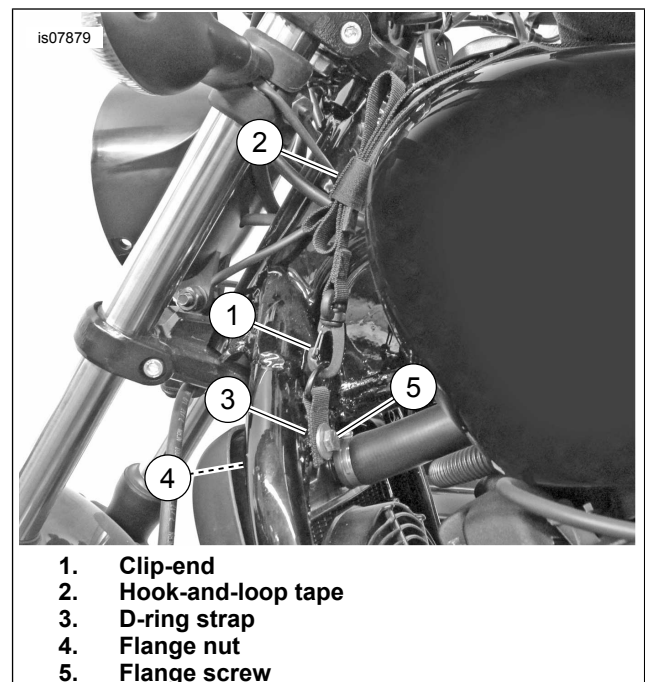

Figure 2. Street Tank Bag Front Straps
4. Install the rear strap (2) and washer (3) from the kit. Secure with screw (1) from the previous step. Tighten to 24.3–29.7 N·m (18–21 ft-lbs).
- a. See Figure 2. Remove two screws, washers and radiator shroud.
- b. Install D-ring strap (3), flange screw (5) and flange nut (4) to engine guard mounting location. Tighten to 22.5–27.5 N·m (17–20 ft-lbs).
- e. Connect the clip-end of a strap (1) to the D-ring strap.
7. See Figure 2. Pull front strap ends to tighten straps. Secure the strap ends to the hook-and-loop tape (3).